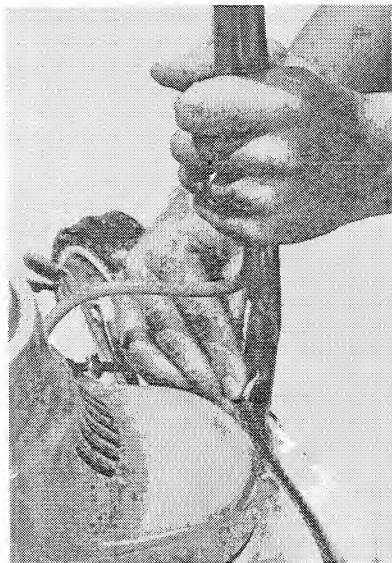
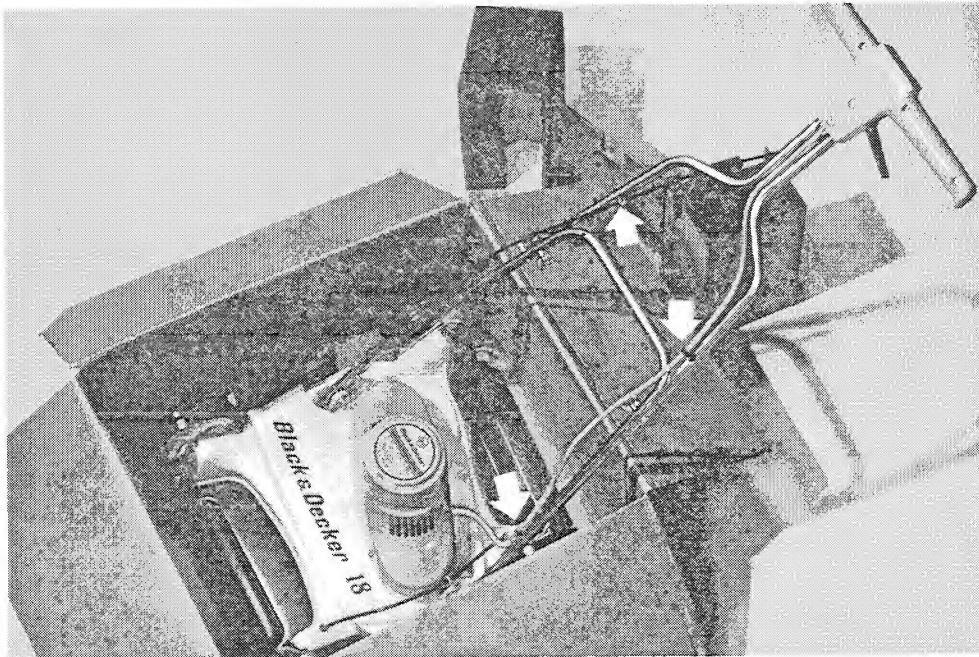
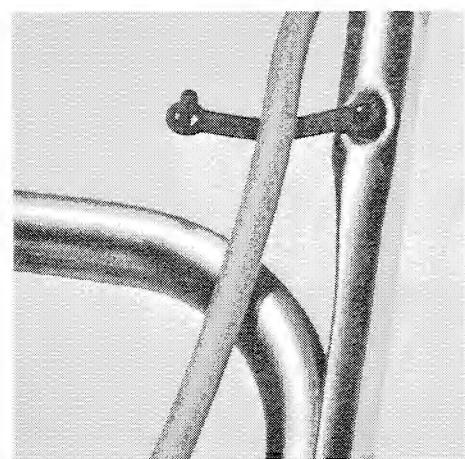
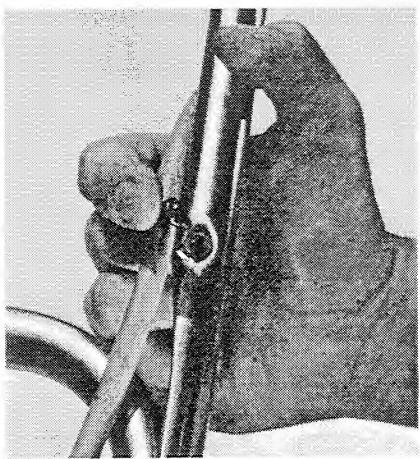

FIGURE 8A
FIGURE 6
FIGURE 7A
FIGURE 7B
(4) Three plastic straps are used to hold the power cord and the safety latch cable close to the handle at locations indicated by arrows in Figure 6. To attach, push the larger of the two pegs on the straps into the hole in handle tube (Figure 7A). Push the strap around the cord and snap the smaller peg into the hole in the larger peg (Figure 7B).
(5) Grasp lower handle tubes and lift mower out of carton.
(6) Swing the handle to a vertical position and insert the "S"-Hook on the safety shield cable into the slot near the bottom of handle (Figures 8A and 8B).